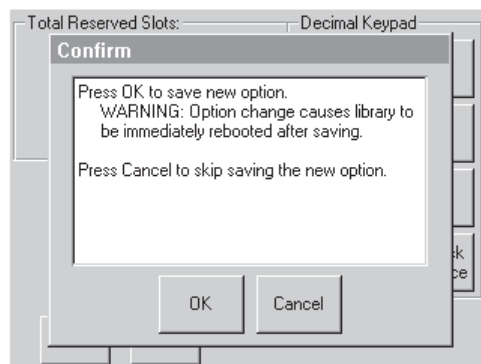

Figure 30. Total Reserved Slots Confirmation screen
4. Enter a new value and select **Save**. A confirmation screen appears on the display as shown in Figure 30.